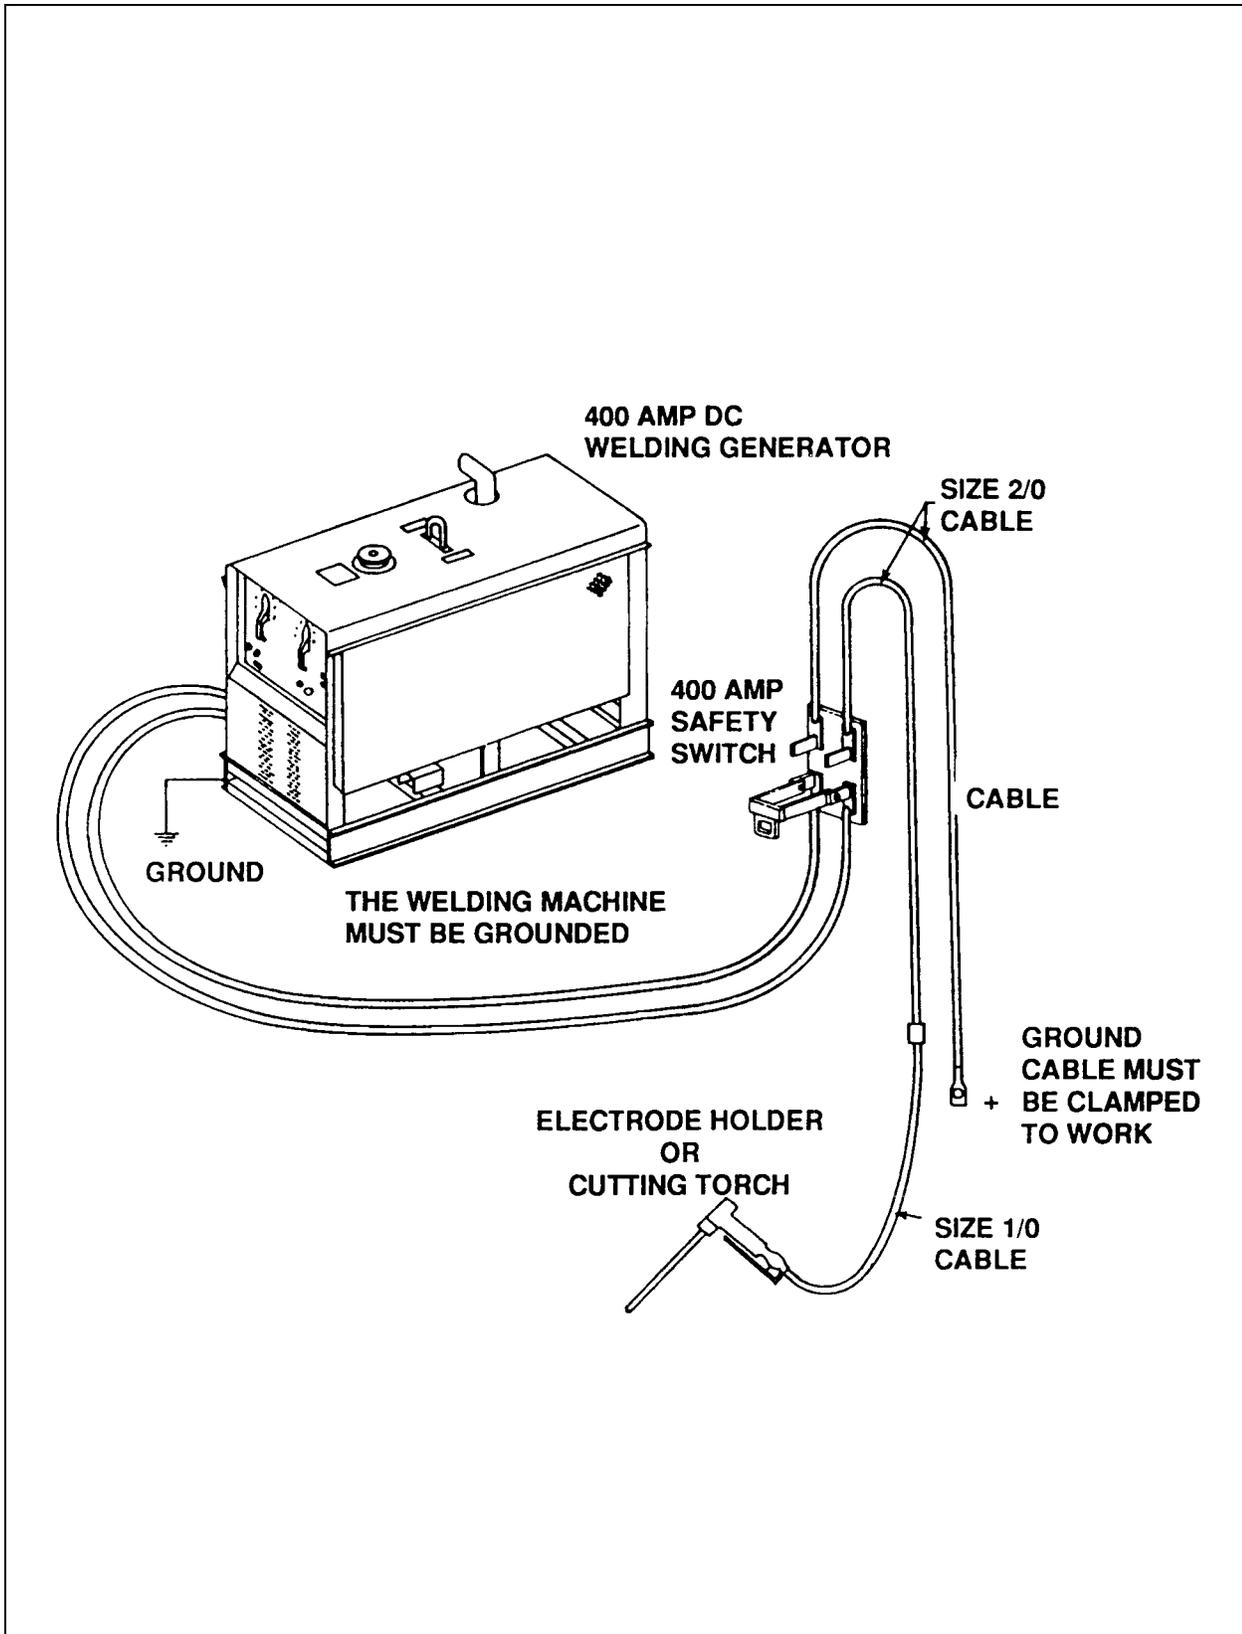

Figure 4-8. Equipment Arrangement for Welding and Cutting Straight Polarity.
**4-2.3.1 Power converters.** Power converters are just what the name implies; the input alternating current (AC) primary power is passed through a circuit breaker to a rectifier, where the input is transformed to DC power. Portable power converters, though somewhat limited, are particularly useful for salvage work when ship or shore power is available. Figure 4-8 shows one such unit which weighs only 70 pounds and will deliver a maximum of 80 volts open circuit with an adjustable current range of 30 to 375 amps. Power converters should not be used when the work is deeper than 100 FSW or with more than 200 feet of welding lead. To work beyond these boundaries would overwork the machine. This type machine will support cutting operations using the exothermic technique for short periods of time, however, for long burning jobs where power is to be used, a welding generator is recommended. This type of unit will not accommodate cutting operations using the steel-tubular electrode. When using electric-driven machines, ensure that the primary power supply cables are laid separately and away from welding supply cables.
**4-2.3.3 Polarity.** Underwater cutting and welding operations are usually performed with DC ELECTRODE NEGATIVE, i.e., STRAIGHT POLARITY. A typical equipment arrangement is illustrated in Figure 4-8. The cable from the electrode holder is connected to the negative (-) terminal of the DC power supply and the positive (+) or ground cable is connected to the work. The majority of electrode manufacturers call for a DC, ELECTRODE NEGATIVE setup. Occasionally, there may be a requirement for reverse polarity, sometimes referred to as DC, ELECTRODE POSITIVE for a particular electrode or for improved welding as noted in Chapter 3. This will normally be at the recommendation of the electrode manufacturer and will be printed on the electrode box or included in accompanying literature.
The use of an approved, positive-acting safety switch in the welding or cutting-circuit is mandatory. The switch must be mounted so the handle is in the upper-most position during welding or cutting. If the switch should accidentally fall, the circuit is broken. The switch illustrated in Figure 4-8 shows the correct orientation. The safety switch protects the diver by allowing current flow only when the diver is actually cutting or welding or has the electrode poised and ready. When a single-pole switch is used, special care must be taken that the switch is not being shunted out or bypassed. This can occur if there is a break in the insulation between the welding machine and the safety switch. It is important to remember that wet, bruised or worn cables between the machine and the switch, either single or double pole, can be shorted out by abrading against the frame of the welding machine, hatch combings or lying on a steel deck. Cables in this condition would constitute a potential source of danger.